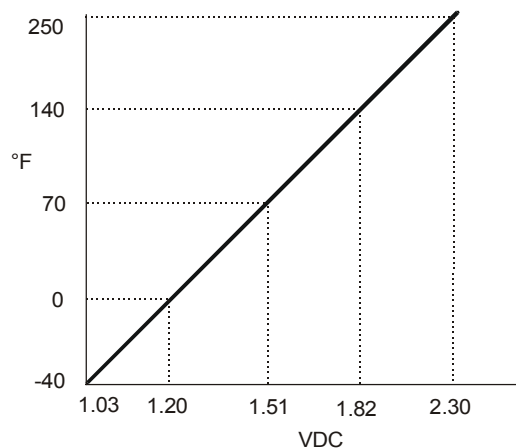

Figure 8: Voltage-to-Temperature Conversion
- Consult Figure 8 to verify master sensor voltage conformance.
- Consult Figure 8 to verify supply sensor temperature. If the sensor's actual temperature varies substantially from the temperature represented on the chart, replace the A350S module.
- If the master sensor is between 1.33 and 1.60 VDC and the A350S module is in the reverse acting mode, adjust the M.R.S. to 90°F. The DVM should correspond to a temperature equal to the MIN SUPPLY setting. To confirm this, convert the DVM voltage to temperature using Figure 8.
- If the master sensor is between 1.33 and 1.60 VDC and the module is in the direct acting mode, adjust the M.R.S. to 30°F. The DVM should correspond to a temperature equal to the MIN SUPPLY setting. To confirm this, convert the DVM voltage to temperature using Figure 8.
- Adjust the M.R.S. counterclockwise if in the reverse acting mode, or clockwise if in the direct acting mode. Supply setpoint voltage should remain at the MIN SUPPLY level until the M.R.S. is adjusted beyond the master sensor voltage. The supply setpoint voltage should increase linearly as the M.R.S. is adjusted in the same rotational direction until the voltage level is clamped by the MAX SUPPLY circuit. To confirm this, convert the DVM voltage to temperature using Figure 8.